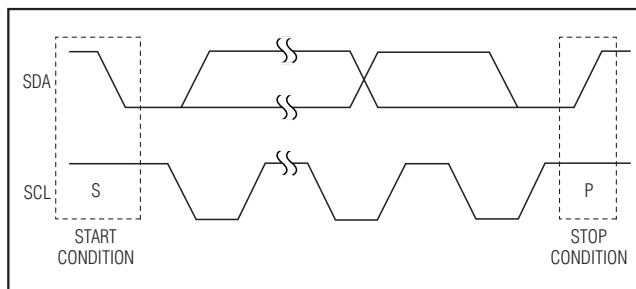
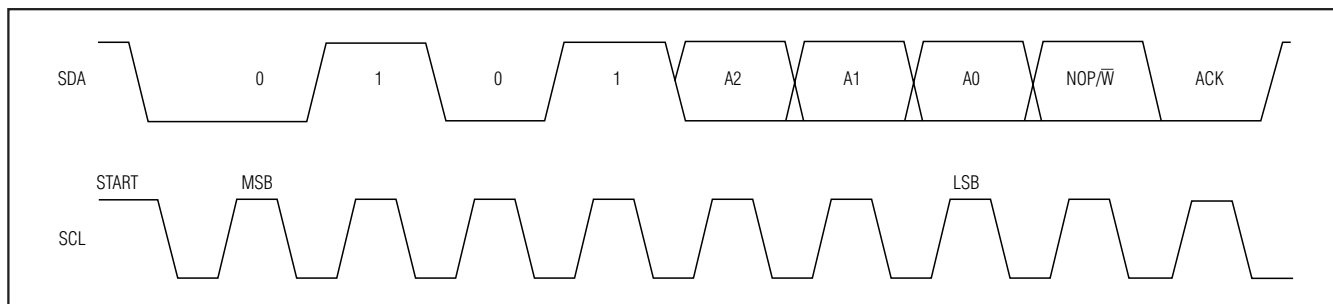

Figure 3. START and STOP Conditions
Figure 4. Slave Address
Each transmission consists of a START (S) condition (Figure 3) sent by a master, followed by the MAX5477/MAX5478/MAX5479 7-bit slave address plus the NOP/ $\bar{W}$  bit (Figure 4), 1 command byte and 1 data byte, and finally a STOP (P) condition (Figure 3).
communicating with the slave. The bus is then free for another transmission (Figure 3).
The MAX5477/MAX5478/MAX5479 have a 7-bit-long slave address (Figure 4). The 8th bit following the 7-bit slave address is the NOP/ $\bar{W}$  bit. Set the NOP/ $\bar{W}$  bit low for a write command and high for a no-operation command.